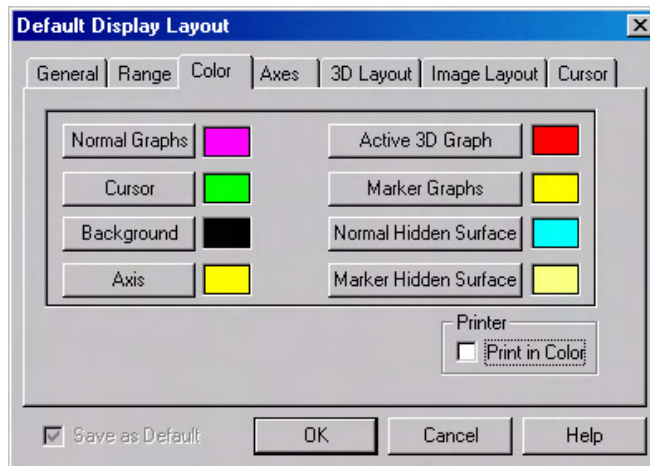

Figure 113. Color tab page
2. Click on **Axis**. The color palette will open as shown in Figure 113.